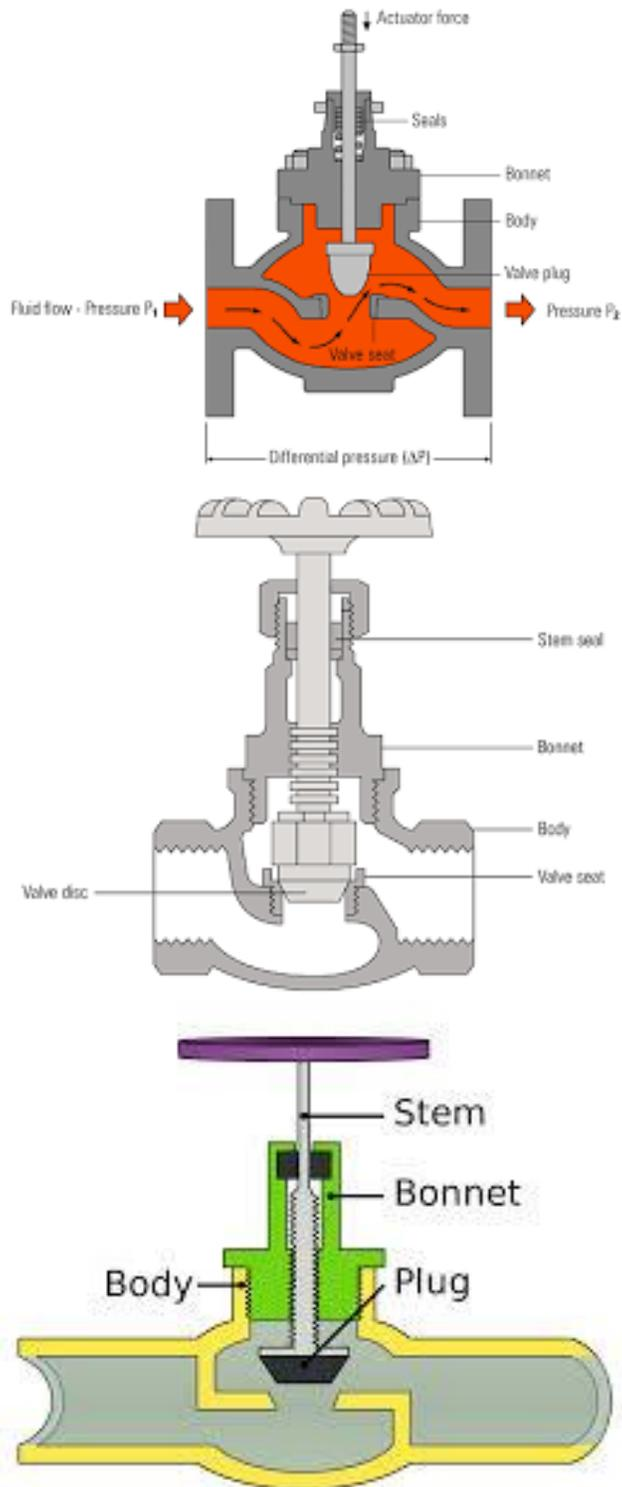

Figure 3 Globe Valves
- This valve provides a restricted flow path, resulting in turbulent flow. It can be used to regulate the flow rate of the liquid as multiple handle rotations are required to fully open or close it. This valve type was required by IEEE standards until the 1980's. In the field, it can be identified by the appearance of the valve body and by feeling the unusual, non-uniform, shape of the protrusions in the valve cavity. See Figure 3.